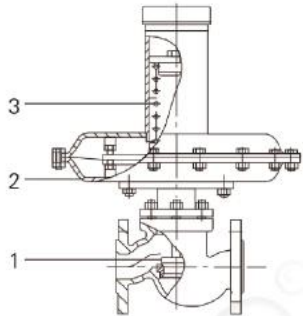

图2：30W02-02泄氮装置
泄氮装置(见图2), 该装置采用内反馈结构, 介质直接经阀盖进入检测机构(2), 介质在检测元件上产生一个作用力预设弹簧(3)预紧力相平衡。当罐内压力升高至于泄氮装置压力设定点, 平衡被破坏, 是阀芯(1)上移, 打开阀门, 向外界泄放氮气; 当罐内压力降至泄氮装置压力设定点, 由于预设弹簧力作用, 关闭阀门。
The nitrogen discharge device (see figure 2) is an internal feedback mechanism. The medium enters the detection mechanism (2) after passing through the bonnet. The medium produces an acting force on the detection element, which balances the pre-tightening force of the spring (3). When the pressure in the tank rises to be higher than the pressure set point of the nitrogen discharge device, the balance is destroyed, so that the plug (1) moves upward to open the valve and discharge nitrogen to the outside. When the pressure in the tank falls to the pressure set point of the nitrogen discharge device, the valve is closed by the preset spring force.